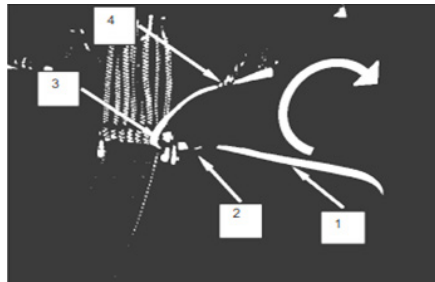

Figure 58
1. Using one turn, single, 14-inch length of Type 1, 1/4-inch cotton webbing (Figure 58, item 1), pass an end through the right bottom connector link tie loop (Figure 58, item 2), through the right pair of connector links (Figure 58, item 3), and up through the top right connector link tie loop (Figure 58, item 4).